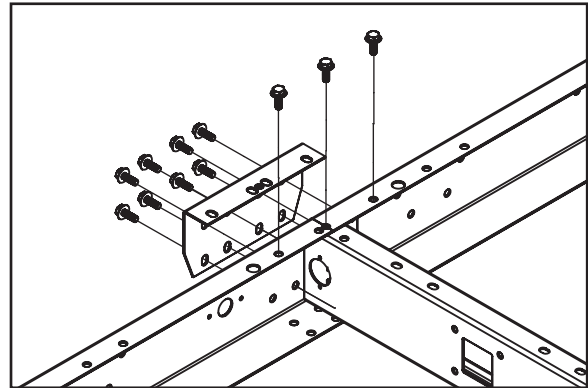

Fig. 6
Step 10: Bolt the long and short Rail Beams (#6 & #5) together. Butt the Long Rail Beam (#6) from the previous step against the Short Rail Beam (#5) and place one of the Connecting Plates (#7) onto that joint. With the Mid-Cross Beam (#4) aligned with the holes, use 11 M10 x 30mm bolts (#1) and M10 Nuts (#2) and fasten so the parts can move slightly as shown (Fig. 6).